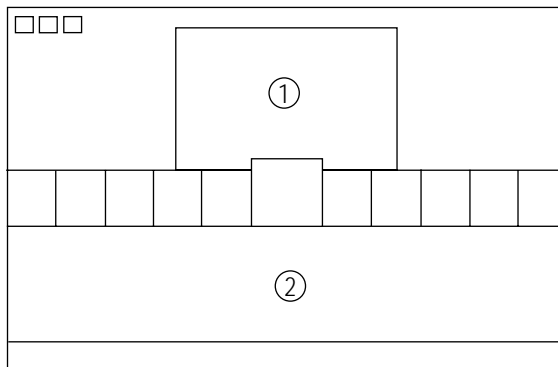

Fig. 4-4
1. Set SBT to 3.5 ± 0.5 fL in the Factory Service Mode with using CA100. See Fig. 4-4 ②.
1. Set SCT to 55 FL (20". 21"), 65 FL(14") in the Factory Service Mode with using CA100. See Fig. 4-4 ①.